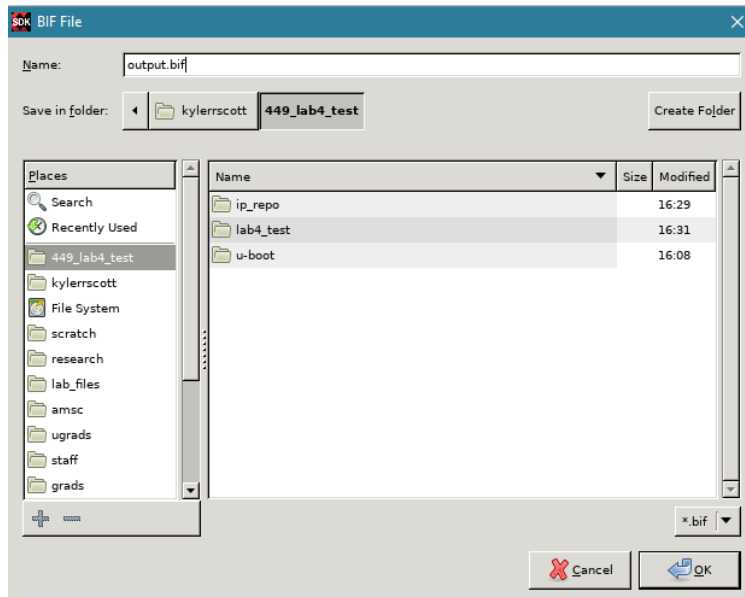

Figure 3: Zynq Boot Image
- (l) In the Create Zynq Boot Image window (as shown in Fig. 3), Click Browse to set the path for output.bif. Select your lab4 directory and click OK.